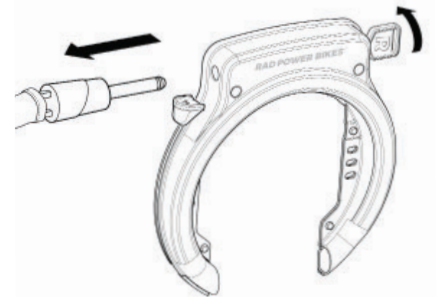

Figure 14: Remove the security chain
c. Then turn the key clockwise again as you remove the security chain from the lock (Figure 14).